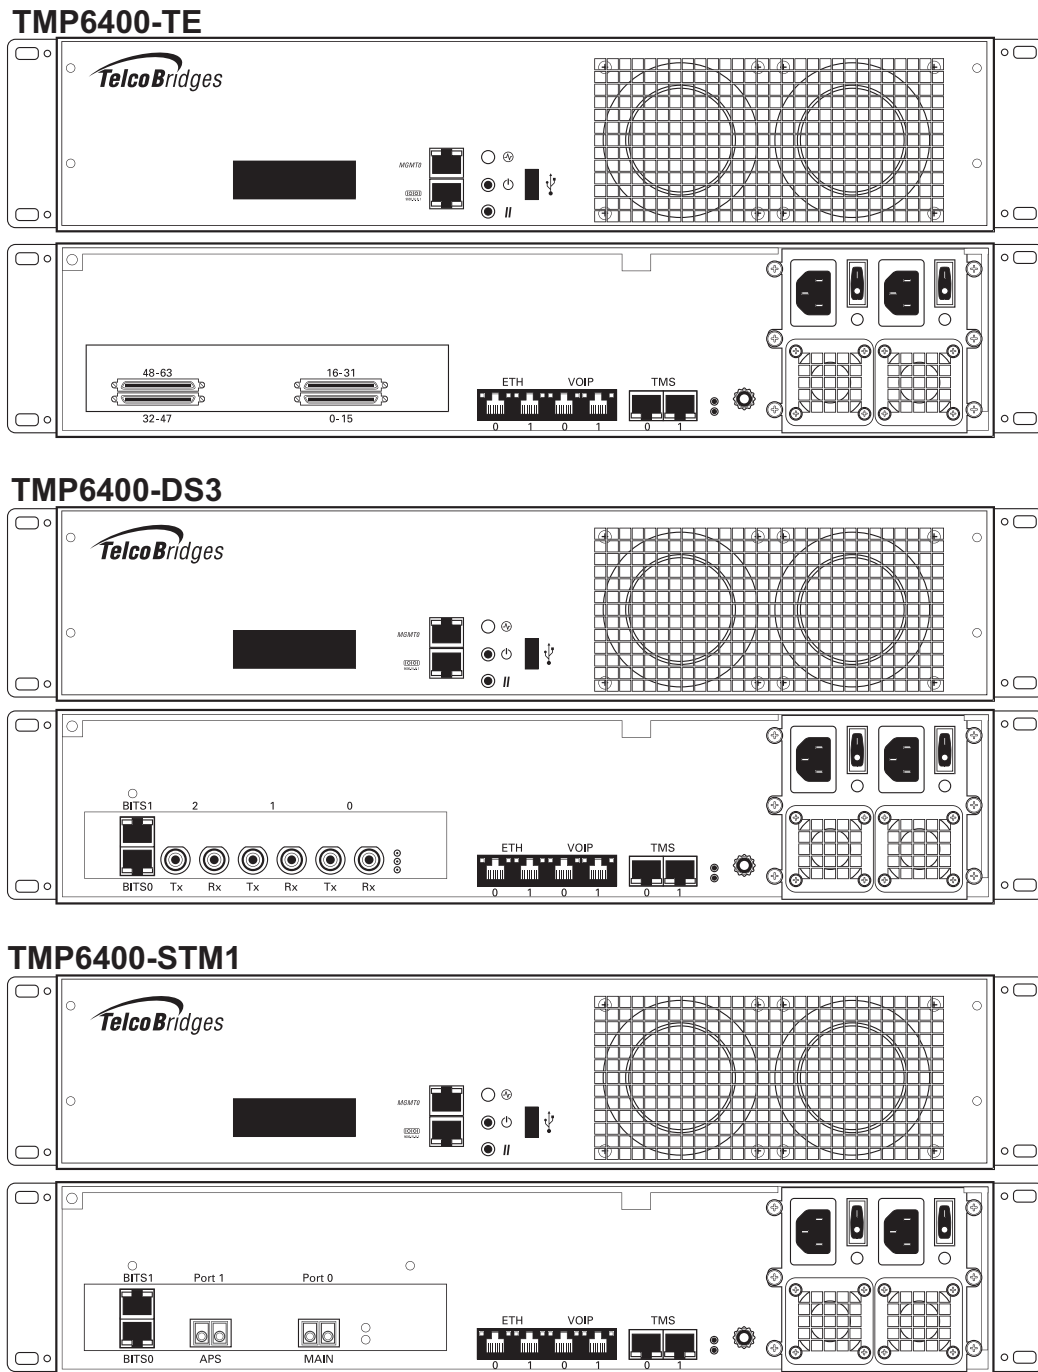

Figure 1.2 TMP6400 Telecom Units Front and Rear Views
- One (1) to 16 TMP6400 Telecom Unit(s). See figure 1.2 on page 3.
- One (1) TMP6400 unit (TMP6400-TE, TMP6400-DS3, or TMP6400-STM1). See figure 1.2 on page 3.
- One (1) set of mounting brackets and screws, used to mount the TMP6400 to a 19" rack.
- One (1) DB-9 to RJ-45 adapter to interface the serial port of your computer with the RJ-45 port of the TMP6400.
- Three (3) CAT5 Ethernet (blue) straight cables (male-male), 3 meters in length.
- One (1) Important Notice (two-sided document containing pertinent product serial numbers, and other important information).
- One (1) Product Warranty.
- One (1) packing slip.
- One (1) Quick Installation Guide (two-sided document that provides a pictorial view of the equipment setup).
- Two (2) AC or DC power cables